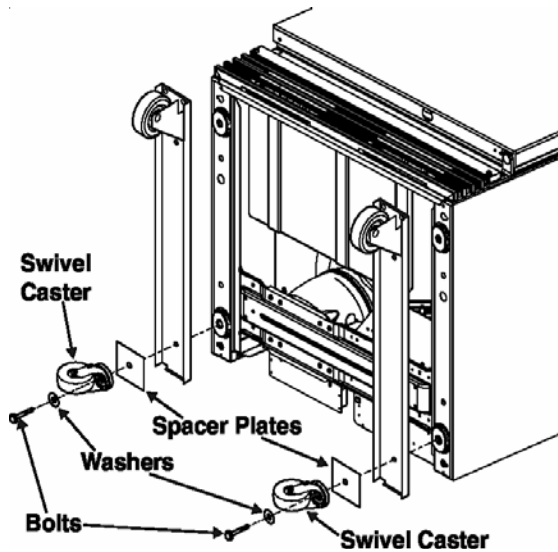

Fig. 5
- Tighten the bolt securely using a ½ inch end wrench or socket wrench (see Fig. 5).